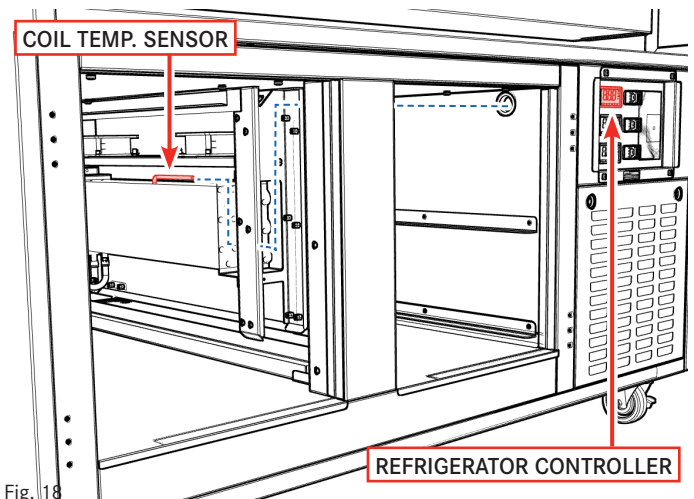

Fig. 18
2. Disconnect coil temperature sensor wiring from controllers (refer to Fig. 18 and *Power ON/OFF Switches & Controllers*, page 5).